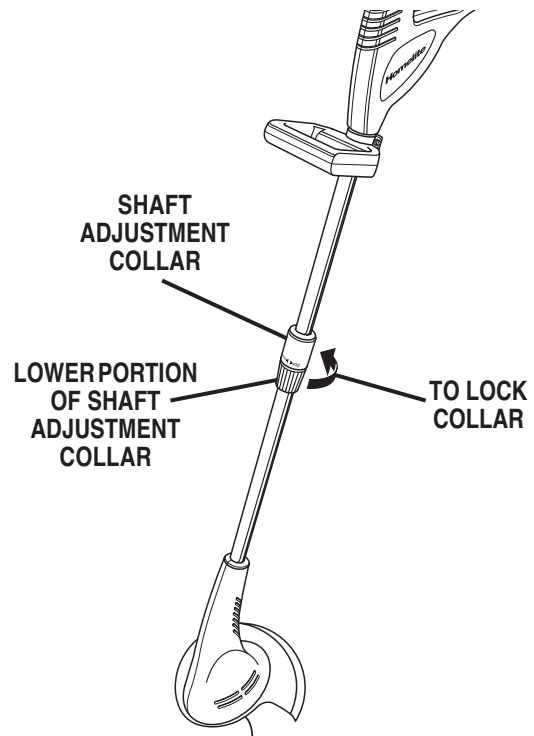

Fig. 5
- Rotate shaft adjustment collar to the "Lock" position and tighten securely. See Figure 5.